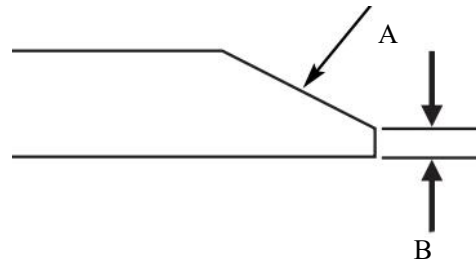

Fig. 13
- Keep the original bevel (A, Fig. 13) when grinding. DO NOT change the mower blade bevel.